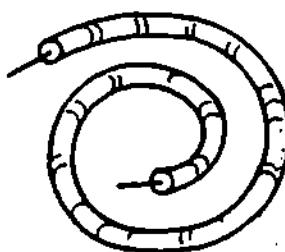

Figure 11
13. A typical time delay for standard coaxial cable is .010 microseconds (.010 μ second) per meter. To produce even a 1 μ second delay would require one hundred meters of coaxial cable. The cable may be coiled to reduce its physical size as shown in Figure 11.